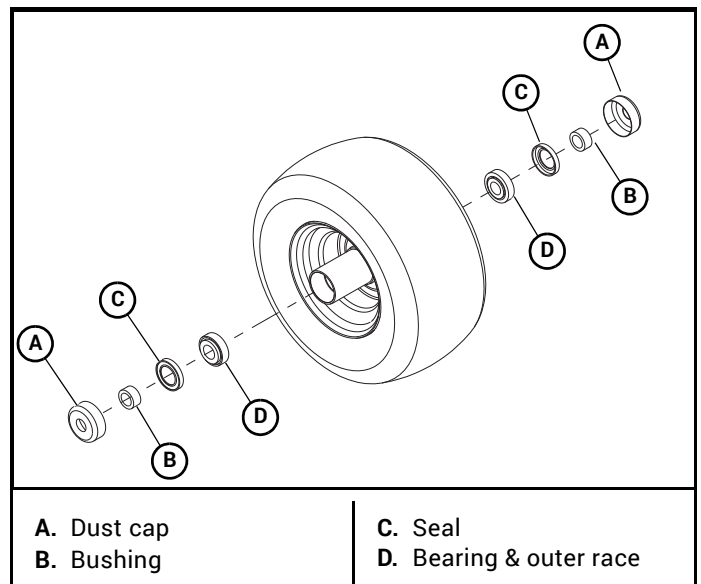

Figure 4-33
4. Remove the dust caps and bushings from the wheel housing. Retain these parts. Figure 4-33
5. Remove and discard the seals. Figure 4-33
6. Remove and discard the tapered roller bearings and outer bearing races. Figure 4-33